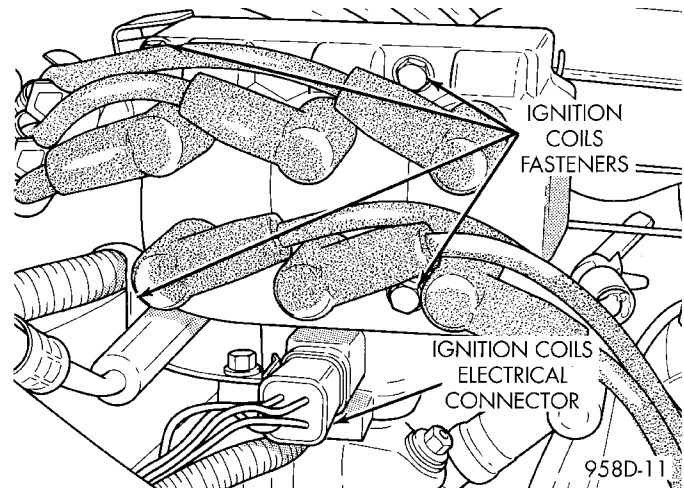

Fig. 2 Ignition Coil Removal
- (1) Remove spark plug cables from coil (Fig. 2). Always twist the spark plug boots to break the seal with the plug and pull straight back on the boot.
- (2) Remove ignition coil electrical connector.
- (3) Remove ignition coil mounting screws.
- (4) Remove ignition coil.